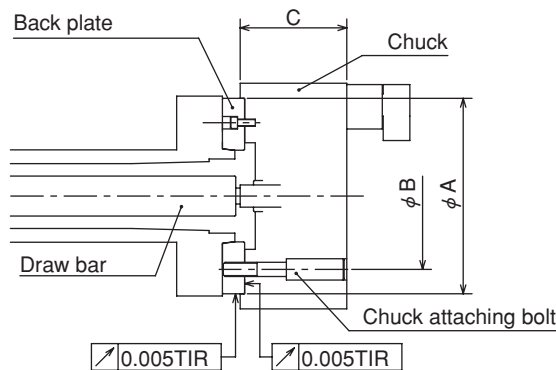

Fig.12
- Fig.12 shows the case of the JIS short taper standard.